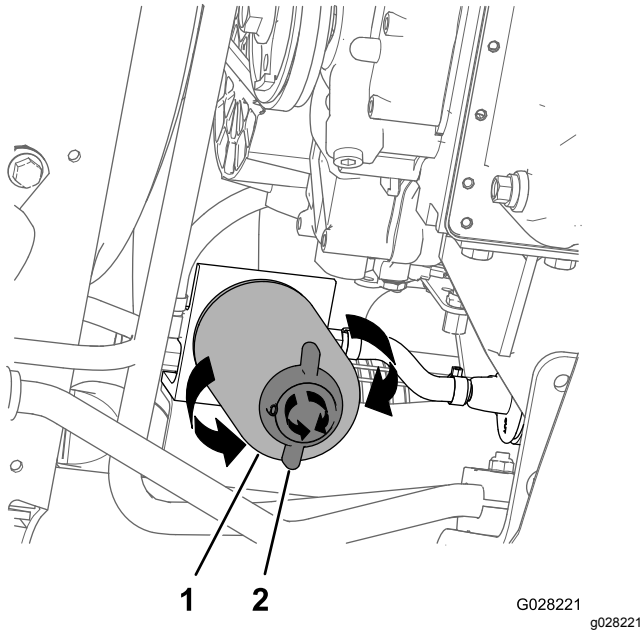

Figure 77
4. Align a drain pan under the fuel filter; refer to Figure 77 in Replacing the Water-Separator Filter \(page 61\).
2. Place a drain pan under the water-separator filter (Figure 77).
3. Rotate the drain valve at the bottom of the water-separator filter counterclockwise (Figure 77).
4. Clean the area around the water-separator filter and filter-adapter mount (Figure 77).
5. Remove the water-separator filter (Figure 77).
9. Ensure that the drain valve at the bottom of the water-separator filter is rotated clockwise tightly (Figure 77).